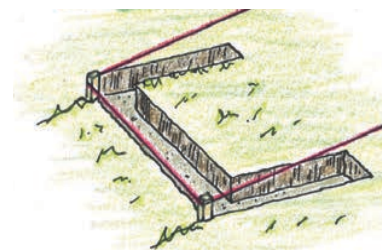

Figure 3
**STEP 3 – Excavate first step.** Starting at the bottom, dig a trench for the first riser timber (this will be more like a shallow groove in the ground). Next, if using side timbers, dig trenches for the side timbers, which should be long enough to extend six inches past the next step's riser. Check to make sure the trenches are level (Figure 3).